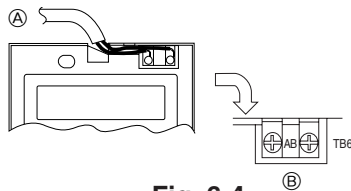

Fig. 6-4
2) Connecting procedures (Fig. 6-4)
① Connect the remote controller cord to the terminal block.